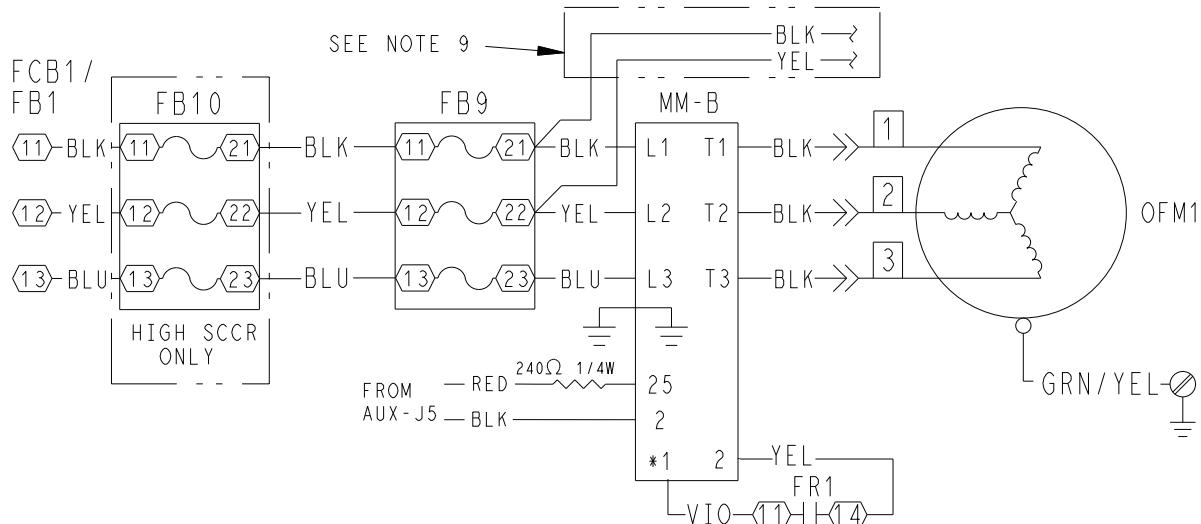

Fig. 15 — Motormaster V Power Wiring — 38APS065 Units
4. Connect fan wires from fan motor to terminals T1, T2, and T3 per Fig. 15.
- a. Connect BLK, YEL and BLU wires from harness to fuse block 2 (FB1) and the other end to MM connection L1, L2 and L3 per Fig. 15.
- c. Connect VIO and YEL wires to terminal 14 and 11 of FR-1 per Fig. 15.